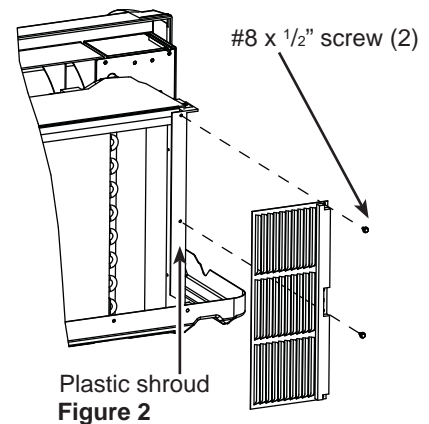

Figure 2
- Mount right hand grill as shown in figure 2 ensuring the foam gasket is facing away from the chassis. Install two (2) #8 x 1/2" self tapping screws in plastic shroud (right side of unit when looking at the back on unit) to secure.